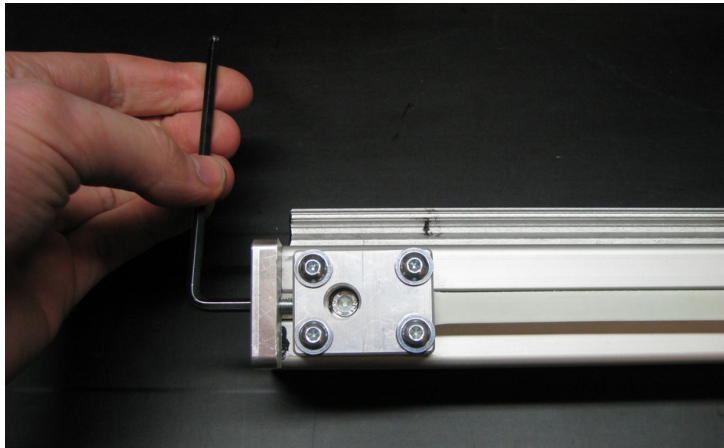

Figure 2.22:
- Tension the belt by carefully tightening the M5x12 bolts in the DCNC BeltDrive ENDPLATE, as shown in figure 2.22.